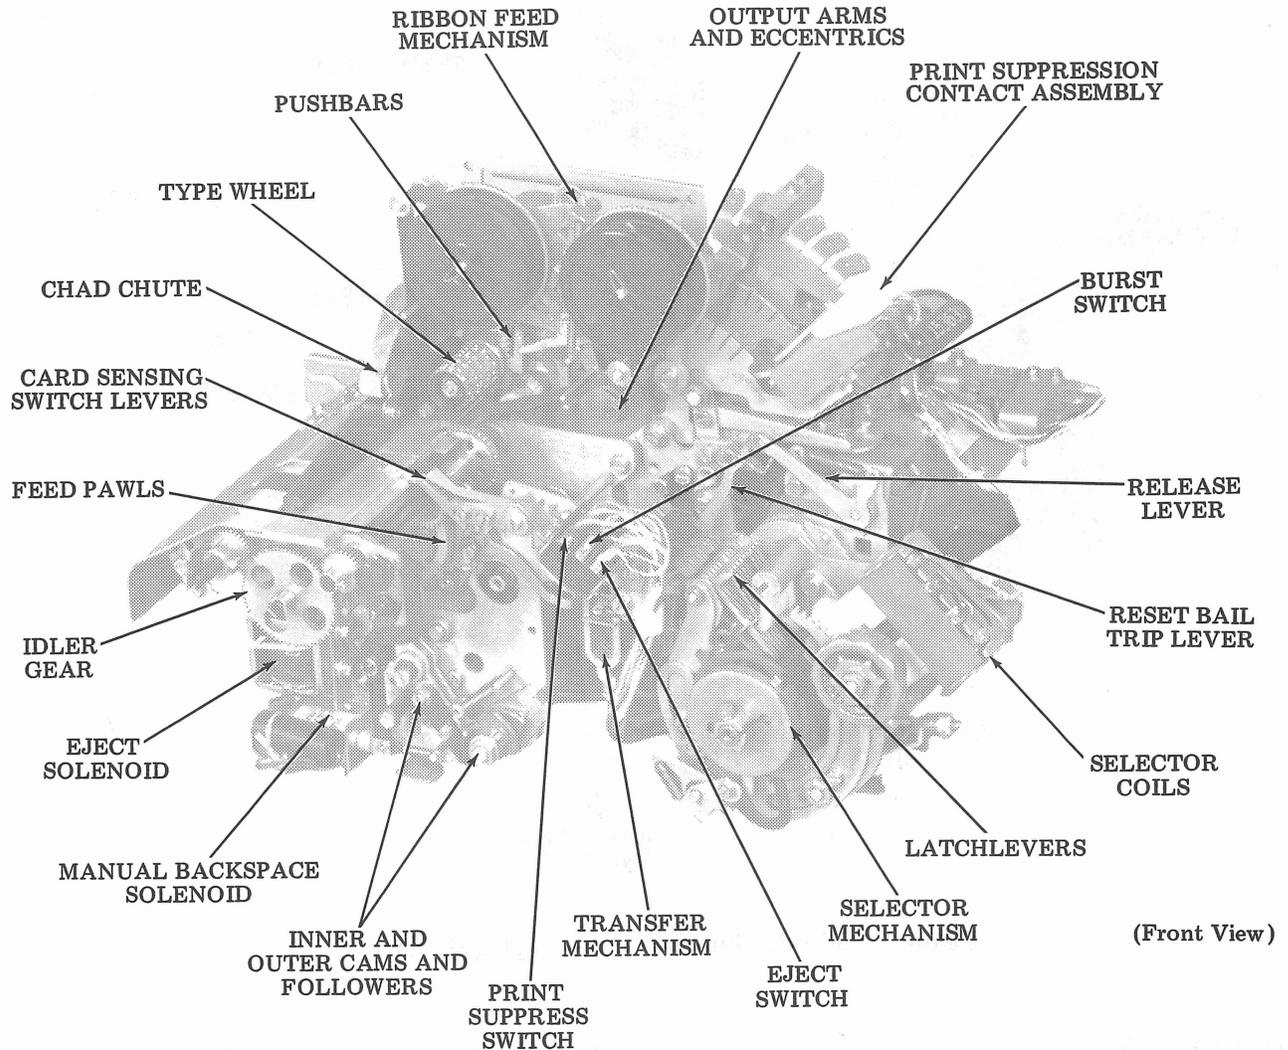
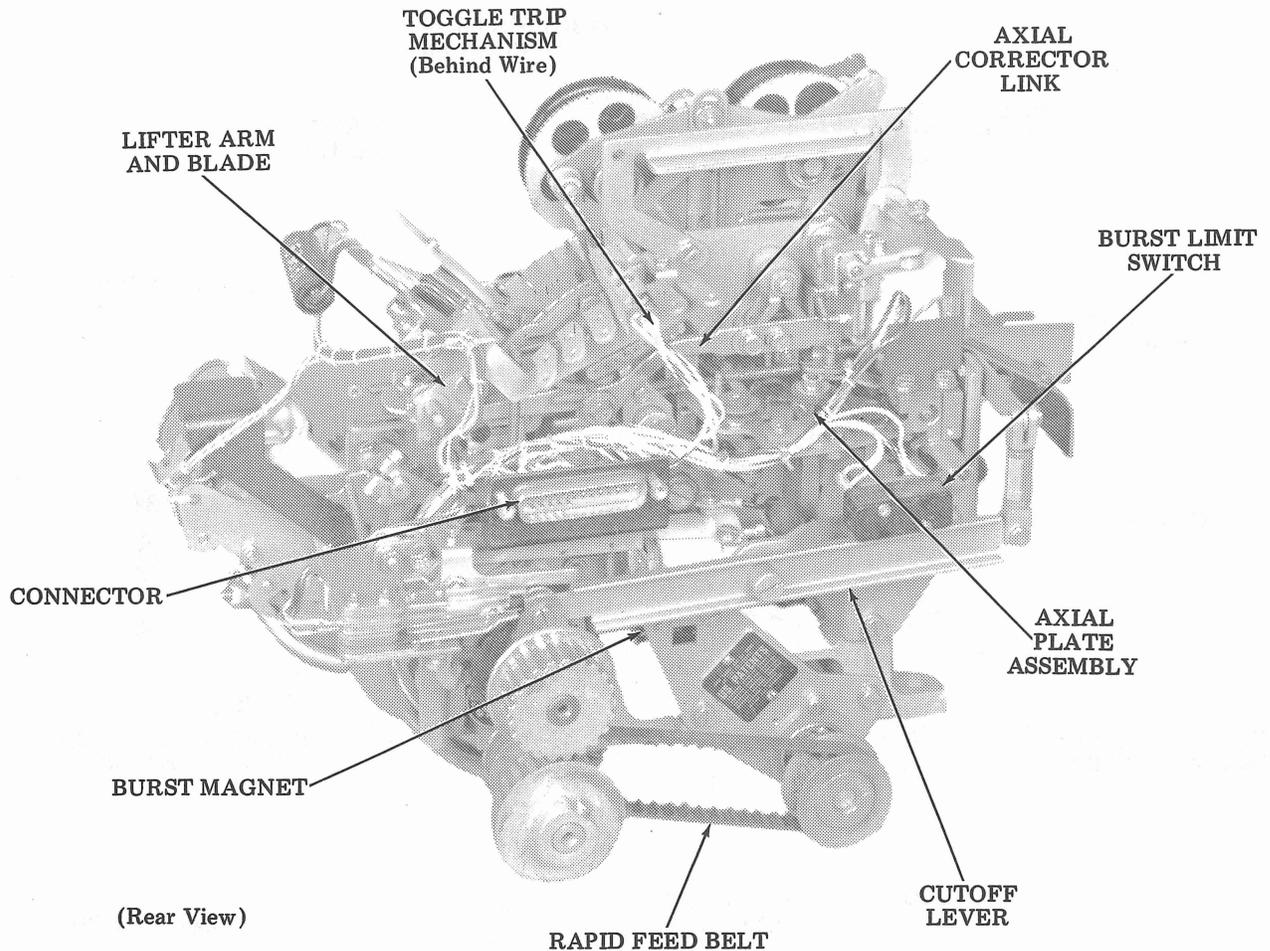

Figure 2 - 35 Edge Punched Card Typing Reperforator (Without Top Plates)
Figure 4 - 35 Edge Punched Card Typing Reperforator (Without Top Plates)
2.04 Remove the two each screws, lockwashers, and flat washers that mount the chad chute. Remove the chad chute (Figure 2).
2.06 Unhook the spring on the function clutch latchlever (TP150355). Remove the orange and brown wires from the selector magnet coils. Remove the spring post (TP309268) by removing its locknut and lockwasher. Remove the screw and lockwasher that secure the selector lever guide (TP170234) to the selector plate. Remove the oil wick holder. Remove the selector mechanism (Figure 2).
2.07 Remove the main trip lever spring (TP150241). Remove the mounting screws (TP151631 and TP151632) with lockwashers and flat washers from the transfer mounting bracket (TP192820). Remove the transfer mechanism (Figure 2).
2.09 Remove the ribbon from the ribbon spools. Remove the print suppression mechanism as described in the previous paragraph. Remove the one remaining mounting screw and lockwasher that mount the ribbon feed mechanism plate. Remove the handle (TP176445) and the ribbon feed mechanism (Figure 2).
2.10 Remove the nut (TP3595) and lockwasher (TP2449) on the front end of the shaft (TP305387). Remove the screw (TP152893) and lockwasher from the cam (TP309235). Remove the cam (Figure 2). Loosen the mounting screws (TP151631) on the rear bearing plate (TP309228 — Figure 4) and move the plate to the left side of the unit (looking from the rear of the unit). Loosen the two setscrews on the toothed pulley. Remove the pulley and timing belt by pulling the pulley toward the rear of the unit. Remove the screw (TP151658) and lockwasher (TP124177) from the bearing clamp (TP158745). Remove the shaft from the mounting plate by moving it to the rear of the unit.
2.12 Before removing the perforator mechanism (Figures 2 and 3), the top plate assemblies, rapid feed shaft, print suppression shaft, and burst blade must be removed as outlined in previous paragraphs.
2.13 Remove the two screws (TP152893), lockwashers (TP3640), and flat washers (TP125011) holding the switch assembly (Figure 2) to the center plate (TP309258) of the punch mechanism. Remove the screw, lockwasher, and flat washer mounting the cable clamp (TP121244) and move the cable to one side.
2.15 Mount the switch assembly and cable clamp by means of its mounting screw to the post (TP309208). Remove the eight latchlevers (TP309234) and springs (TP151103 — Figure 2).
2.16 Remove the shoulder screw (TP112624) and the nut (TP3599) at the actuating end of the cutoff lever (TP305380 — Figure 4). Remove the two screws and lock-
2.19 With the wires removed from the selector coils, print suppression magnet coil, and burst magnet coil, and with the knife switch removed, remove the connector (TP145914 — Figure 4) by removing the two nuts (TP146542) and posts holding it to the bracket.
2.21 Loosen the screw mounting the right side of the contact bracket (Figure 4) to the function box rear plate (looking from the rear). Loosen the nut holding the left side of the contact bracket to the function blade spring plate. Raise the spring loaded function blade slightly, remove the contact bracket with contact assembly. Remove the cable assembly.
2.24 Remove three screws (TP151631) which hold the plate (TP192831) to the casting. Remove the screw (TP151630) and lockwasher (TP2191) holding the axial plate (TP159525 — Figure 4) to the post (TP159404). Lift the typing mechanism while backing off screw and remove it from the casting.
2.27 Remove corrector drive link (TP156413), spring (TP3870), three screws (TP151630) and lockwashers (TP2191) securing the axial plate assembly (Figure 4). Remove axial plate assembly.